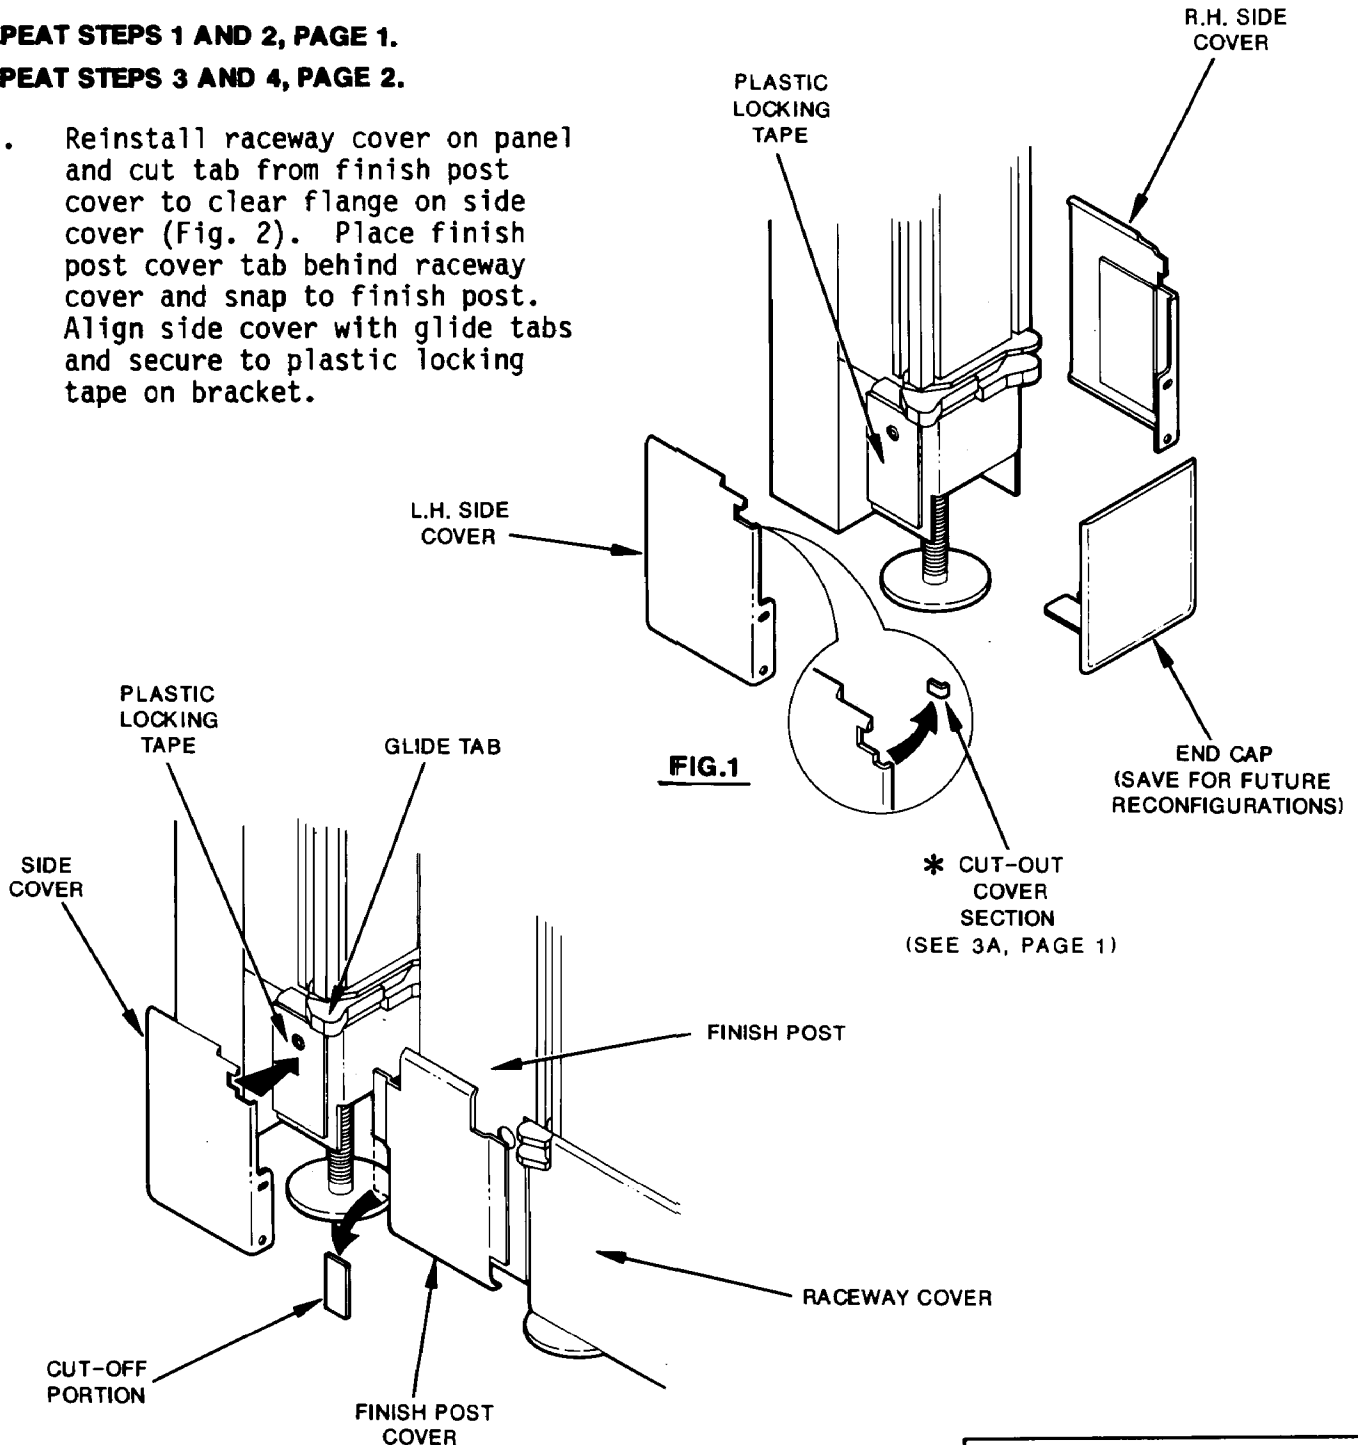

FIG. 2
- Reinstall raceway cover on panel and cut tab from finish post cover to clear flange on side cover (Fig. 2). Place finish post cover tab behind raceway cover and snap to finish post. Align side cover with glide tabs and secure to plastic locking tape on bracket.